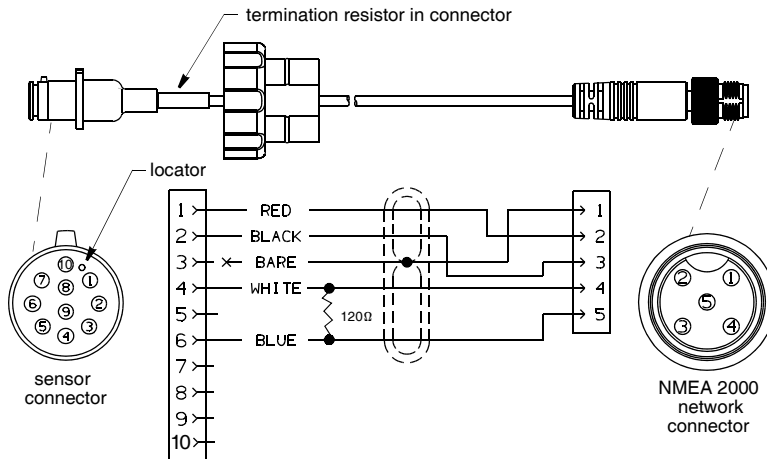

Figure 7. NMEA 2000 Sensor Cable [10m (33') shown]
**NOTE:** Sensor cables longer than 6m (20') have a termination resistor built into the sensor connector (Figure 7).